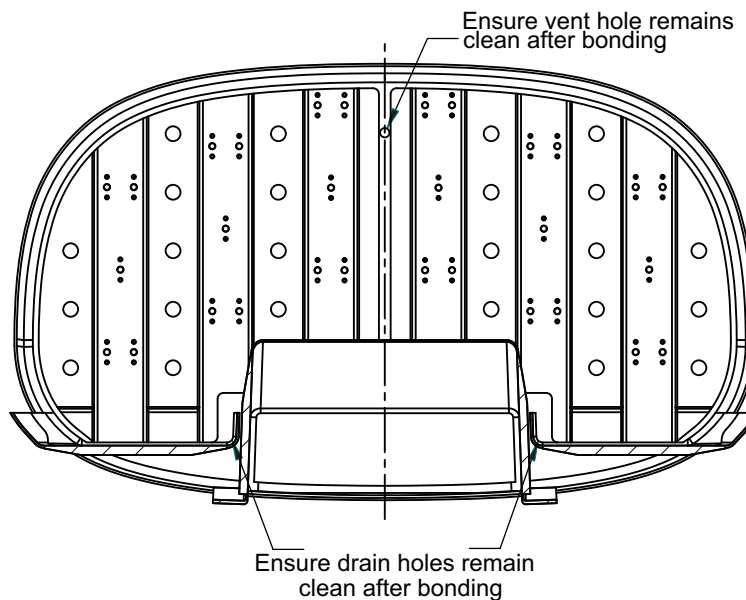

Figure 2 – Drain / Vent Hole Locations
10.13 Clean the excess paste squeeze out from the bulkhead to make sure that the drain and vent holes remain open as shown in Figure 2.